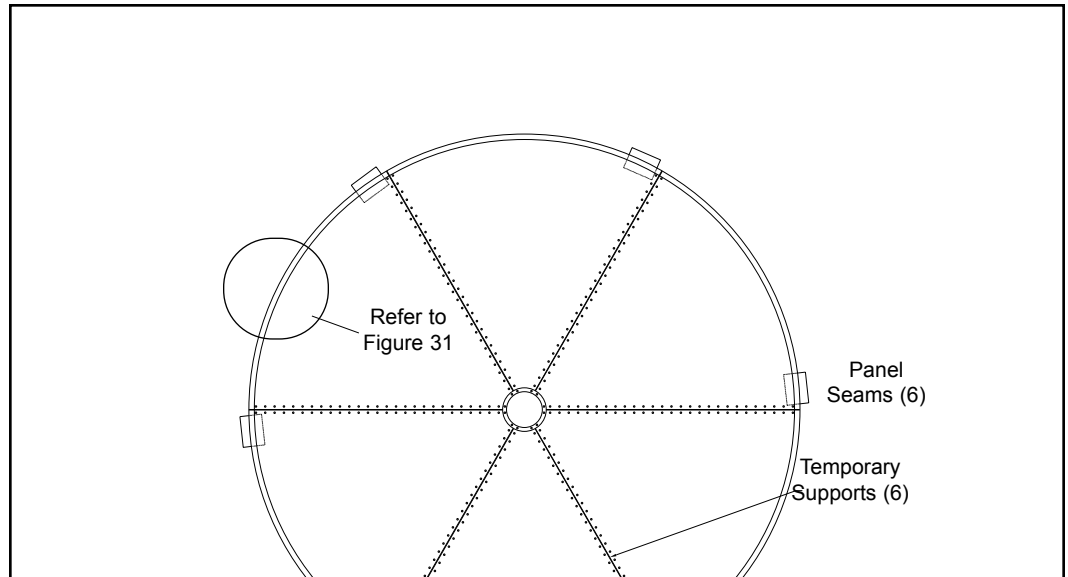

Figure 29
Position (6) temporary supports near panel seams exactly as shown in Figure 29.